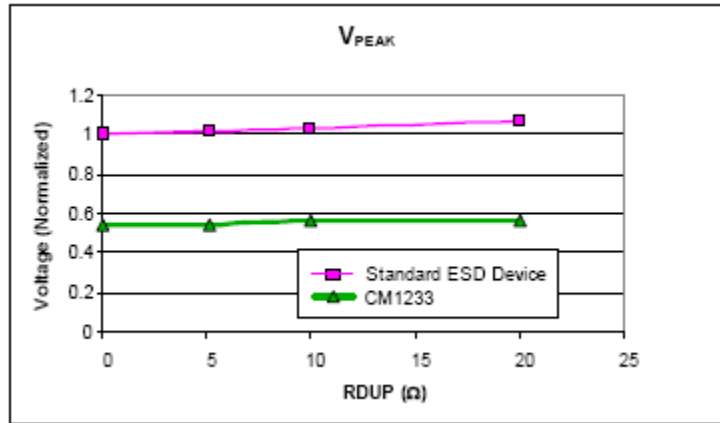
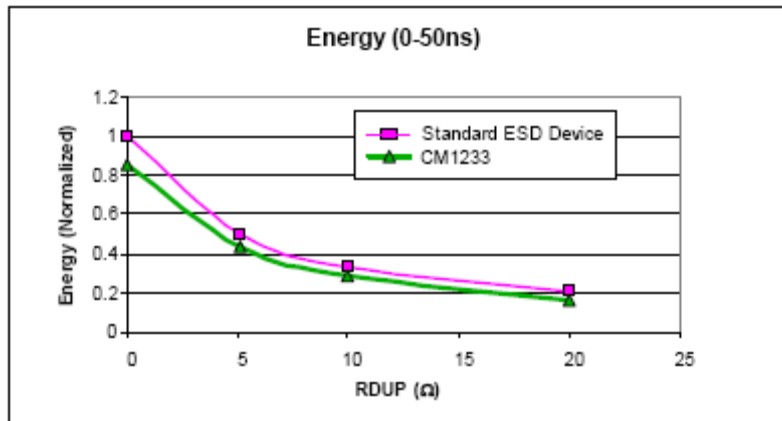
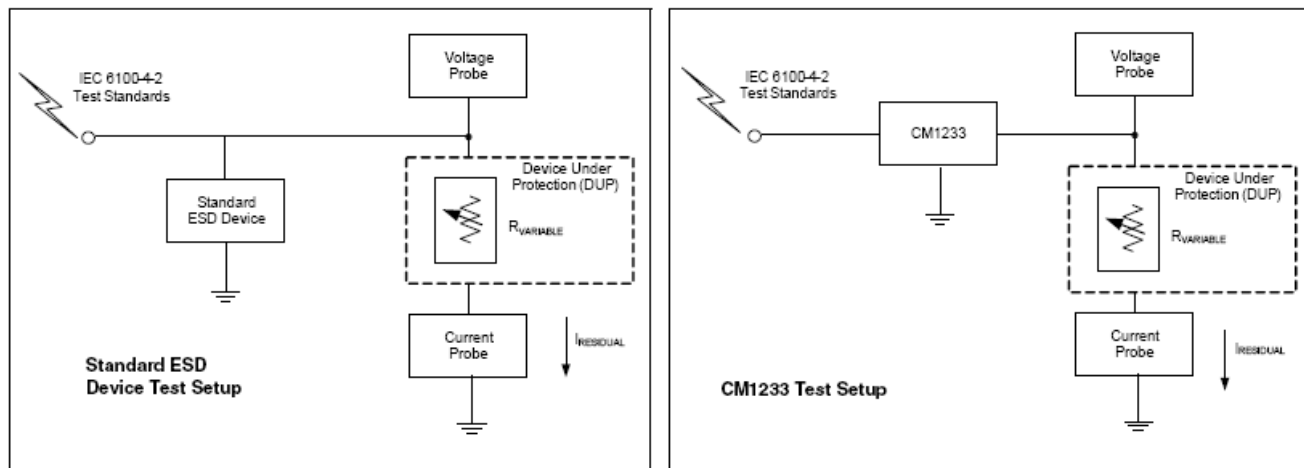

Figure 4. V_{Peak} (8KV IEC-61000 4-2 ESD Contact Strike) and V_{Clamp} vs. Loading (RDUP)*
Figure 5. Energy Dissipated in DUP vs RDUP*
Figure 6. Test Setups: Standard Device (Left) and CM1233 (Right)
Figure 4 shows that the CM1233 (*PicoGuard XS* ESD protector) lowers the peak voltage and clamping voltage by 45% across a wide range of loading conditions in comparison to a standard ESD protection device. Figure 5 also indicates that the DUP/ASIC protected by the CM1233 dissipates less energy than a standard ESD protection device. This data was derived using the test setups shown in Figure 6.
* RDUP is the emulated Dynamic Resistance (load) of the Device Under Protection (DUP). See Figure 6.